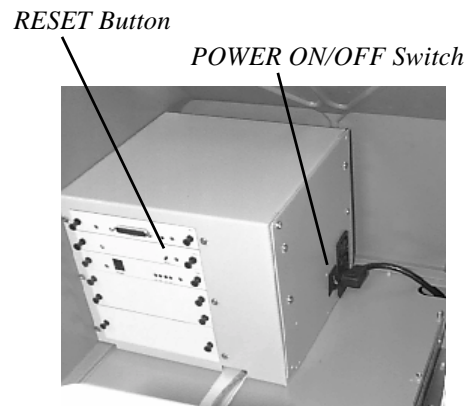

Fig. 8-2. Location of the Reset Button and Power ON/OFF Switch. Used to reset the terminal in an OUT OF SERVICE condition.
1. Press and then release the RESET Switch (See Figure 8-2).
2. Turn the AC Power Switch OFF for a few seconds, then turn it back ON (See Figure 8-2).